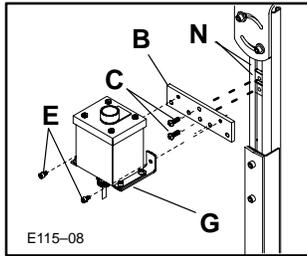

Figure 8: Jog Vertical Mounting to Steel Stand Leg
- b. Attach the unit to the Leg channel in the manner shown in Figure 8. Attach the Pushbutton Box assembly with Mounting Brackets (in the same way it was packaged, when shipped) to the two Spring Nuts, using the M6 x 16 mm Button Head Cap Screws. Tighten Screws with 4 mm Hex Key Wrench provided.